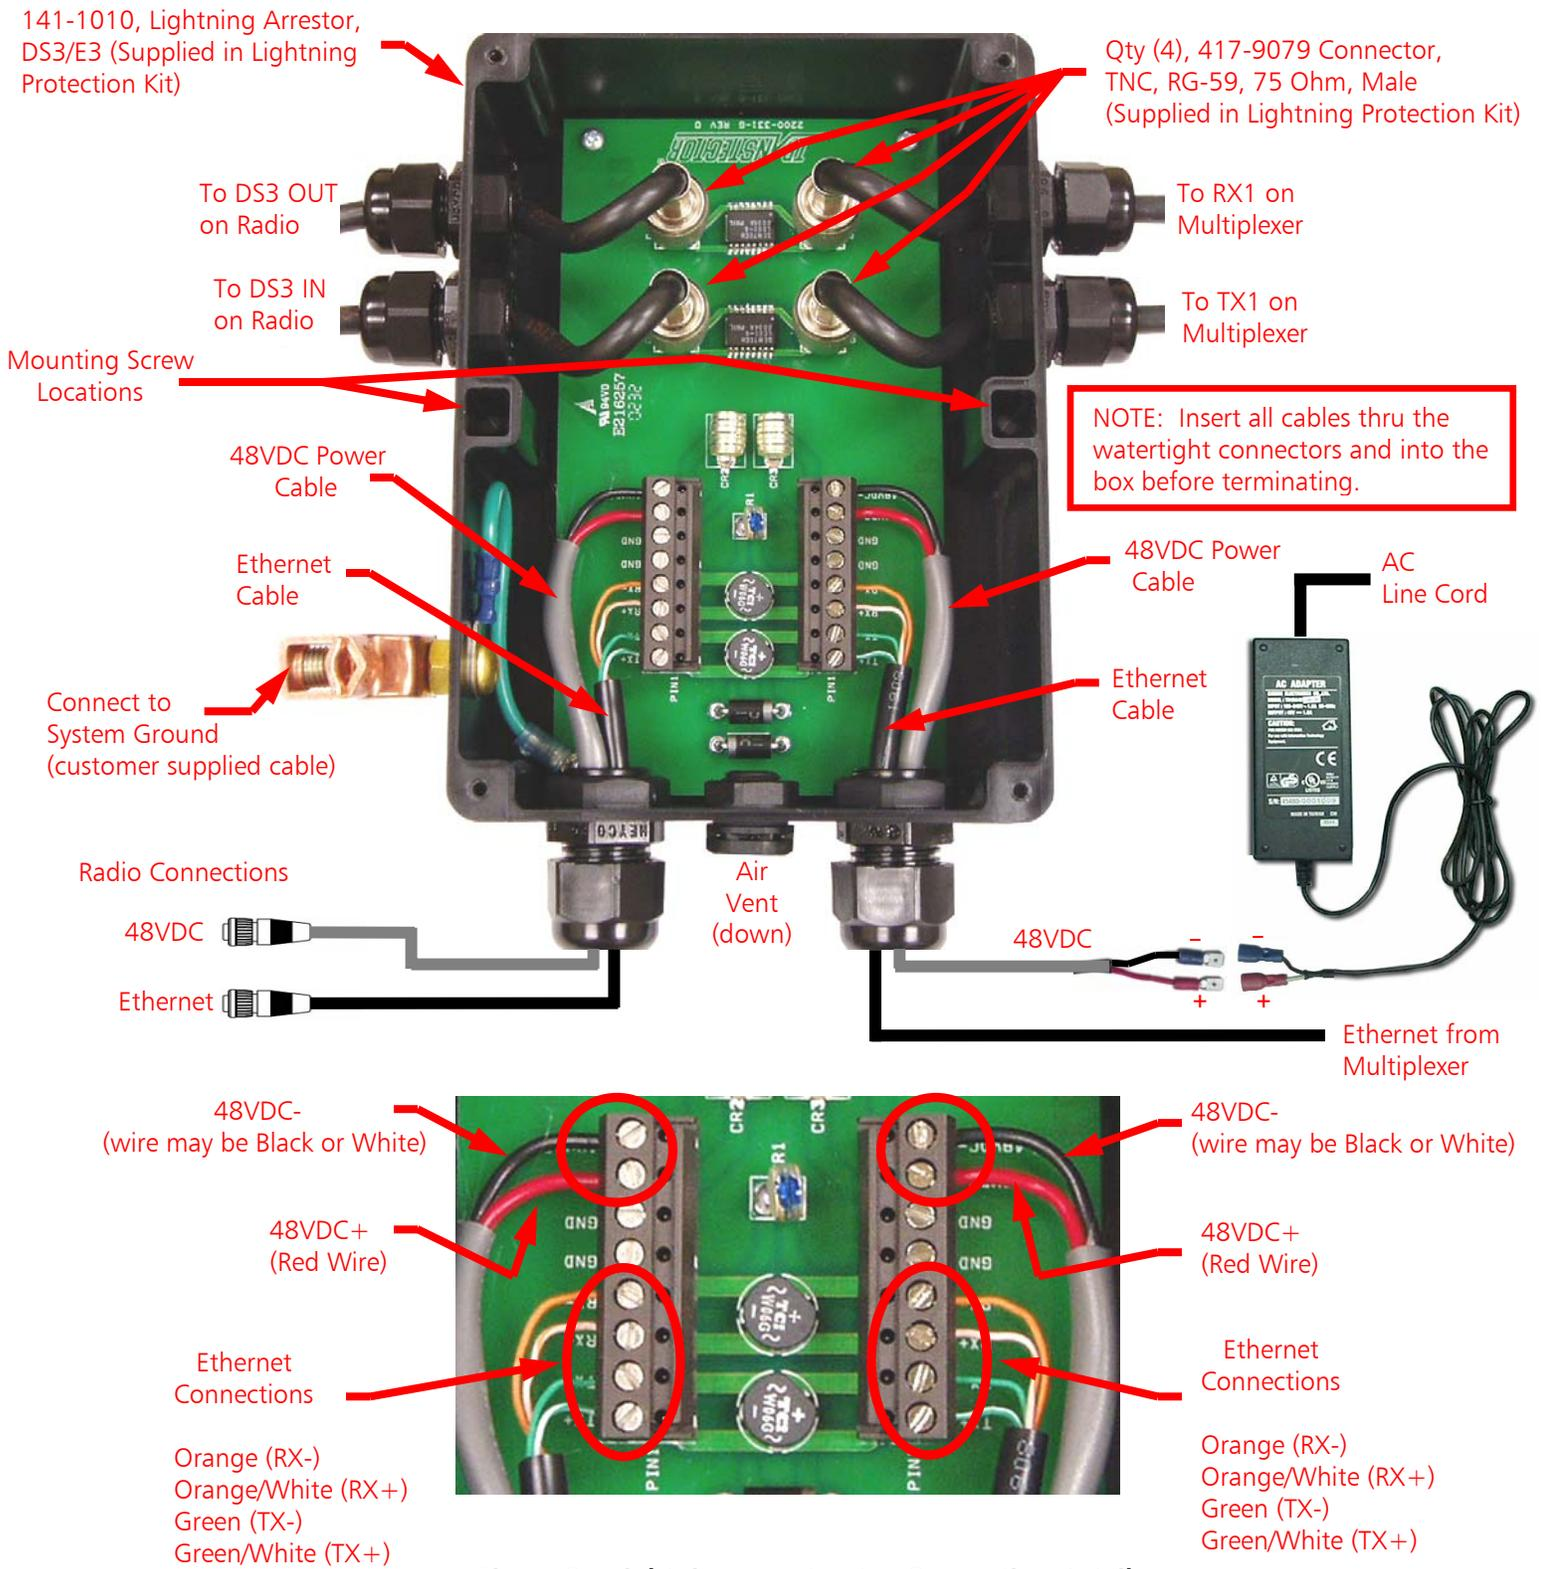

Figure 2 – Lightning Arrestor Box Connection Details
Step 2 – Determine the location of the Lightning Arrestor Box. Refer to **Figure 2** of this document for the Lightning Arrestor Box Connection Details. Additionally, refer to Section 2.13 of the BP4500 User's Guide for details. The Lightning Arrestor must be placed near the system ground and connected with customer supplied materials.
Step 2 – If in a lab environment, connect cable with attenuators (minimum of 50dB) to the antenna connection on both radios. For outdoor installations, connect to the provided antenna. Be sure to install the coaxial lightning protector as shown in Figure 2.